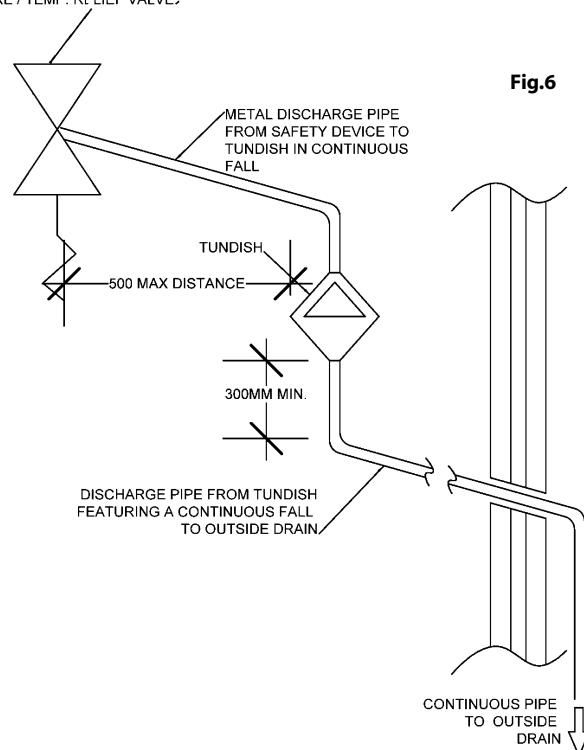

Fig.6
- be at least one pipe size larger than the nominal outlet size of the safety device unless it's total equivalent hydraulic resistance exceeds that of a straight pipe 9m long ie. discharge pipes between 9m and 18m equivalent resistance length should be at least two sizes larger, than the nominal outlet size of the safety device between 18 and 27m, at least 3 sizes larger and so on. Bends must be taken into account in calculating flow resistance. Refer to Table 1 overleaf and fig. 6.